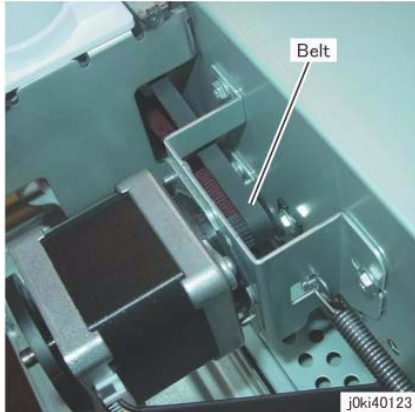

Figure 2 Install the Belt
2. Install the Belt to the Pulley of the Carriage Motor. (Figure 2)